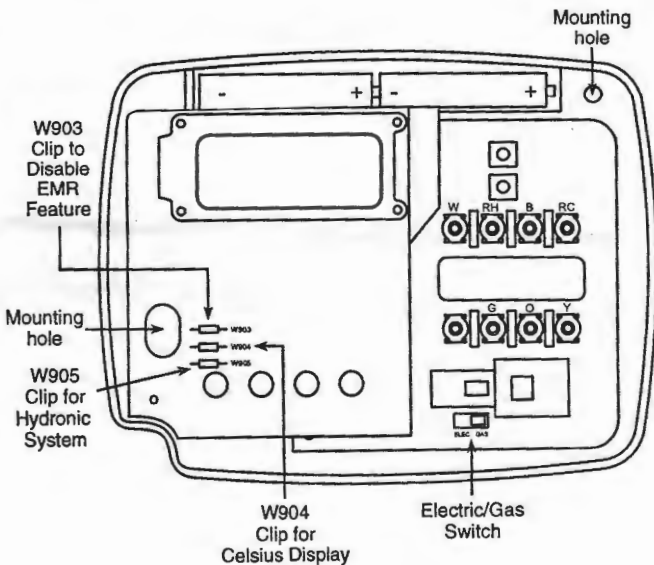

Figure 1. Thermostat base
This thermostat is configured from the factory to operate a heat/cool, fossil fuel (gas, oil, etc.), forced air system. It is configured correctly for any system that DOES NOT require the thermostat to energize the fan on a call for heat. If your system is an electric or heat-pump system that REQUIRES the thermostat to turn on the fan on a call for heat, locate the **GAS/ELECTRIC** switch (see fig. 1) and switch it to the **ELECTRIC** position. This will allow the thermostat to energize the fan immediately on a call for heat. If you are unsure if the heating/cooling system requires the thermostat to control the fan, contact a qualified heating and air conditioning service person.
To disable EMR, clip jumper W903 (see Fig. 1).
5. Fasten base loosely to wall, as shown in fig. 1, using two mounting screws. Place a level against bottom of base, adjust until level, and then tighten screws. (Leveling is for appearance only and will not affect thermostat operation.) If you are using existing mounting holes, or if holes drilled are too large and do not allow you to tighten base snugly, use plastic screw anchors to secure subbase.
This thermostat requires 2 "AAA" alkaline batteries to operate. If the word **LO BATTERY** is displayed, the batteries are low and should be replaced with fresh "AAA" Energizer® alkaline batteries. To replace the batteries, install the batteries along the top of the base (see fig. 1). The batteries must be installed with the positive (+) ends to the right.